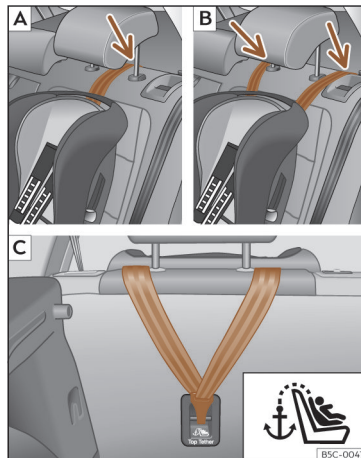
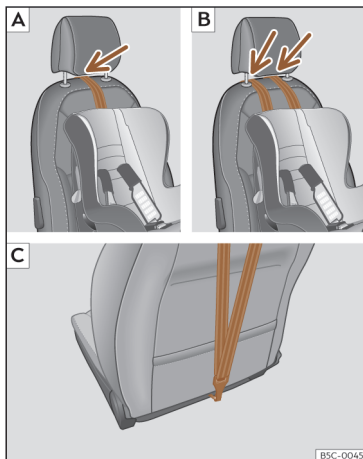

Fig. 37 Rear seats: adjustment and assembly according to the Top Tether belt.
Fig. 38 Front passenger seat: adjustment and assembly according to the Top Tether belt.
- Position the belt under the headrest (depending on the instructions of the seat itself, lift or remove the headrest if necessary) >>> **Fig. 37 [A/B]**, >>> **Fig. 38 [A/B]**.
- Slide the strap and secure it properly with the anchorage of the backrest >>> **Fig. 37 [C]**, >>> **Fig. 38 [C]**.